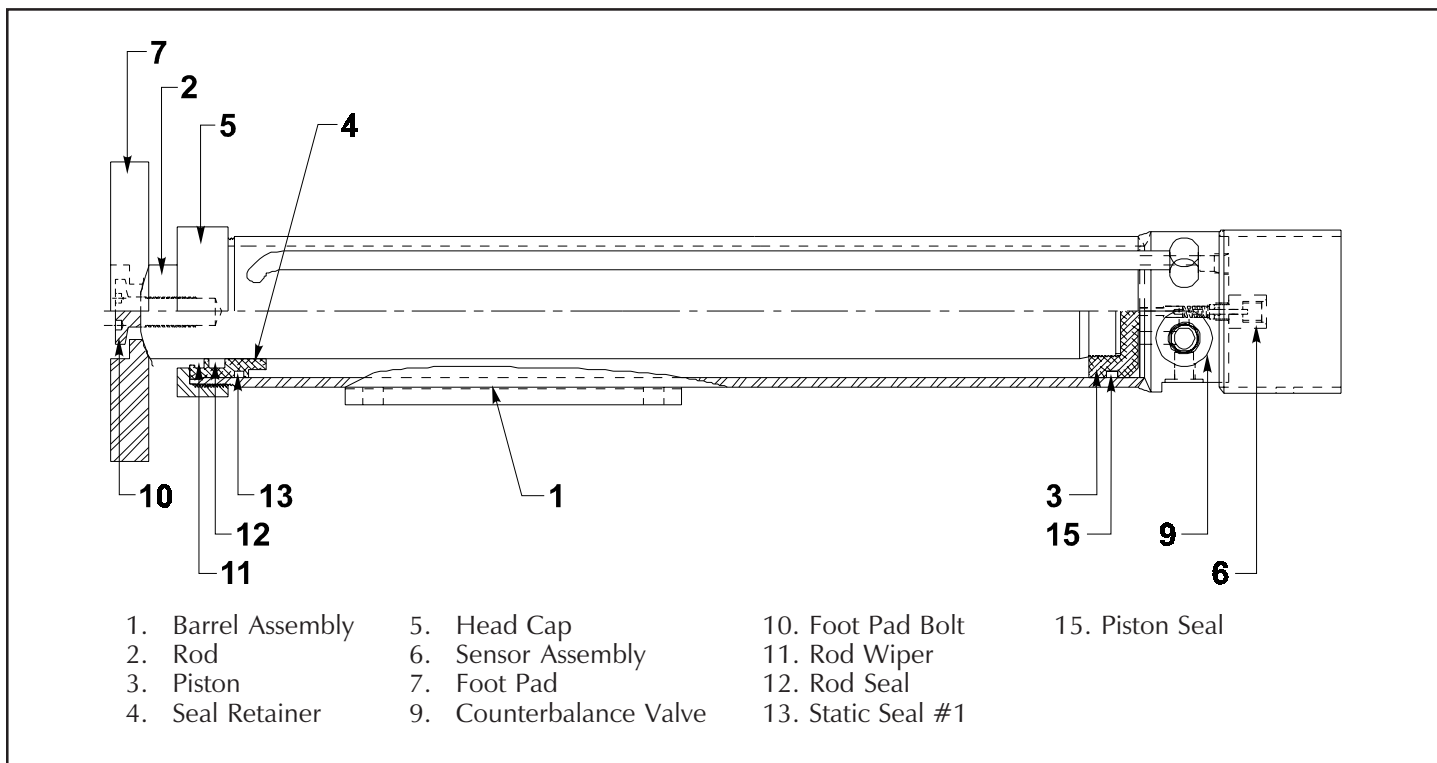

Figure 4-26: Outrigger Cylinder Cross Section
### SEAL REPLACEMENT (FIGURE 4-26)
**Note: During seal replacement steps, do not use sharp edged tools to avoid cutting the seals. After assembling all seals, allow at least one hour for the seals to elastically restore to their original shape before assembly. Refer to Figure 4-26 for component identification and placement.**